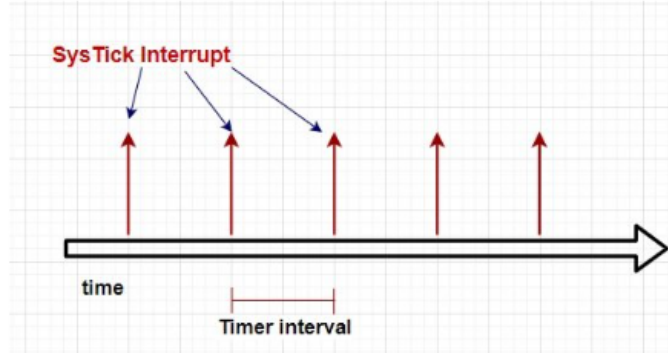

Figure 1: SysTick Interrupts
- **Interrupt Method:** Inside the loop, we will be doing nothing, instead we will write a logic (To perform our task) inside the SysTick handler function SysTick\_Handler(), which will execute after specific time interval as shown in Fig. 1.